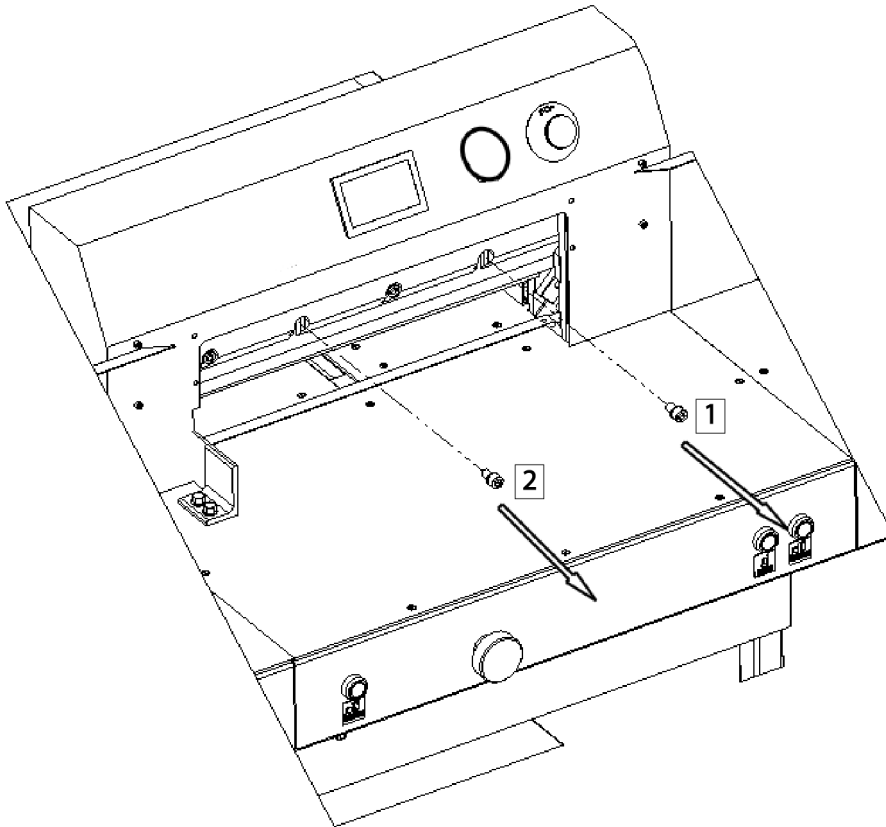
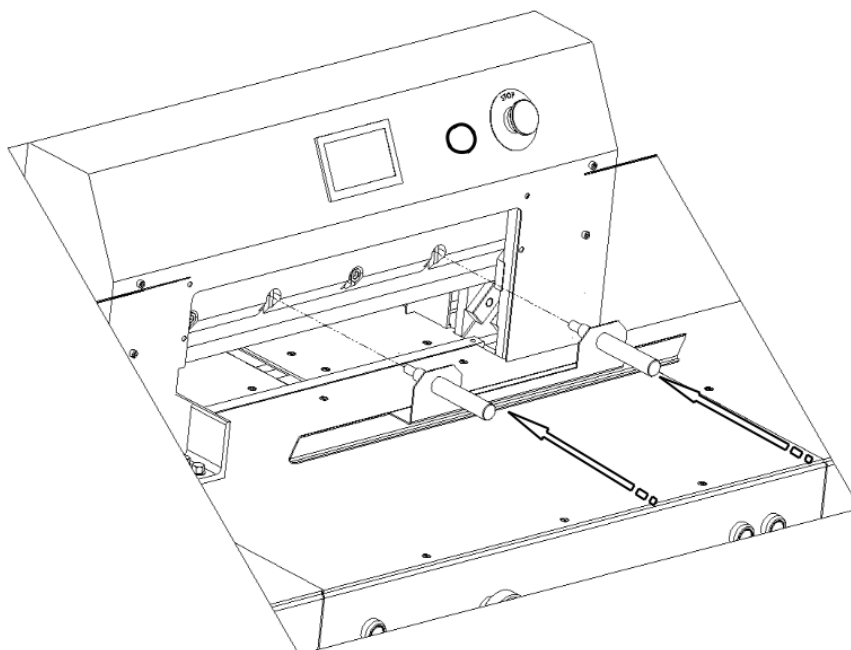

Figure 23
Figure 24
8.1.1.10 Unscrew and remove the fastening screws 1 and 2 (Fig. 23).
8.1.1.11 In the place of screws 1 and 2 removed (fig.23), screw in the transport handle 1 (fig.24), so that it secures the knife to the cutter bar.